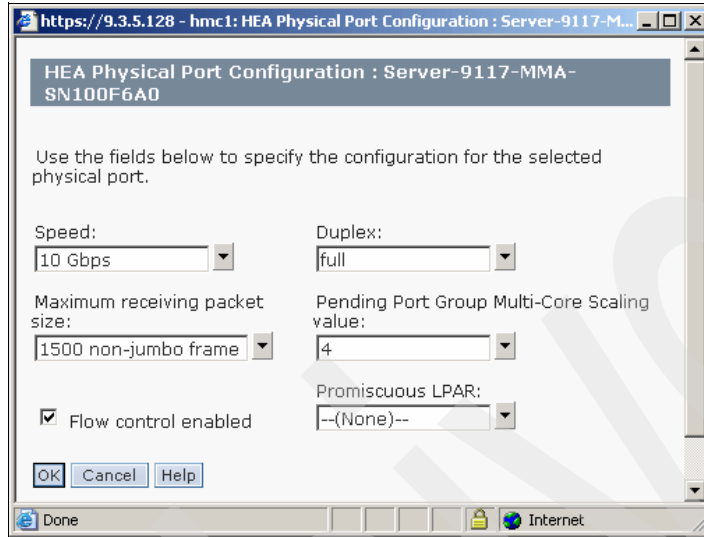

Figure 4-3 HEA configuration second step
- ▶ In the new HEA Physical Port Configuration window, as shown in Figure 4-3 on page 49:
- When all the settings reach your needs, click the **OK** button to complete the HEA configuration (Figure 4-3).